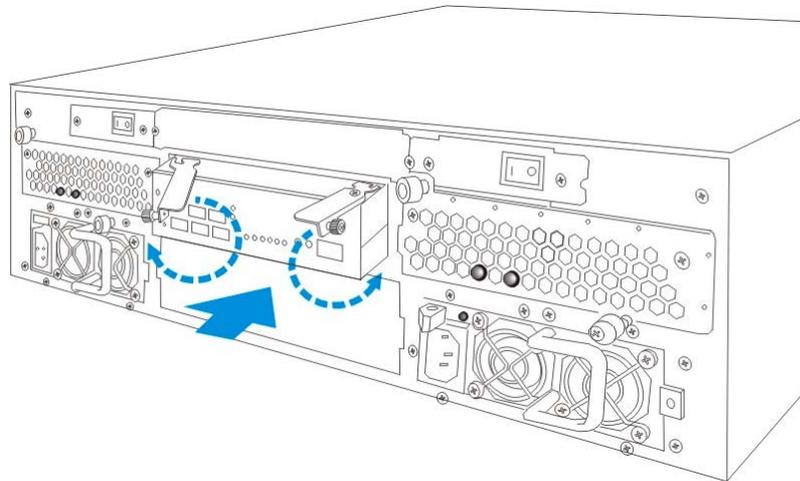

Figure 2- 6: Inserting the Controller Module
Step 1. Insert the controller module into the controller bay. Make sure the two (2) folding handles on the rear side of the controller module are open and not attached to the controller module chassis. Hold the controller module by the edges and carefully align it with the controller bay. Once aligned, gently slide it into the controller bay, making sure it rests properly on the gliding rails.
Step 2. Gently push the controller module into the controller bay. Once the controller module has been properly aligned with the controller bay, gently push it in until you feel contact resistance with the docking connector. (See **Figure 2- 6**).